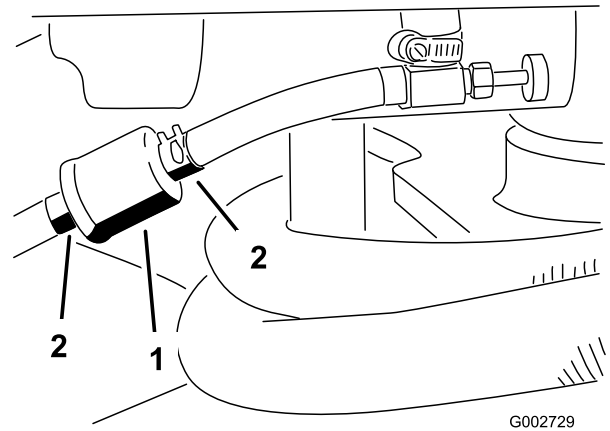

Figure 28
1. Close fuel shut off valve, loosen the hose clamp on the carburetor side of filter and remove the fuel line from the filter (Figure 28).